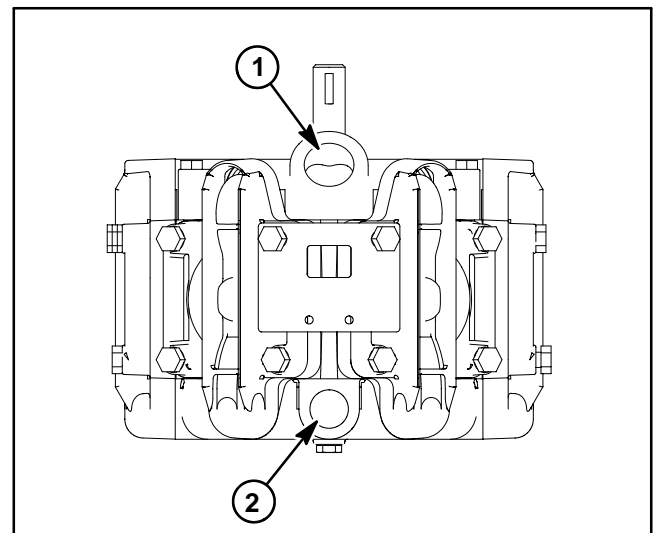

Figure 7
B. Place bearing spacer (item 23) onto crankshaft and then press second bearing onto crankshaft.
14. Place connecting rod spacer (item 21) and then crankshaft assembly into pump casting. Make sure that grease fitting end of crankshaft is inserted into the casting.
16. Place second connecting rod spacer onto crankshaft and connecting rods and then install pump casting. Make sure that pump suction and supply ports are aligned during assembly of the pump castings (Fig. 7).
17. Secure pump castings with three (3) hex bolts. Torque bolts from **60 to 72 ft-lb (82 to 97 N-m)**. After assembly, check that crankshaft turns freely.